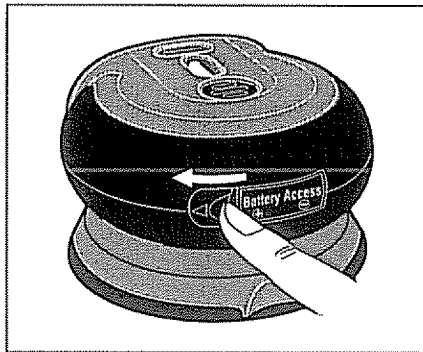

Fig. 4
To Install Batteries (See Fig. 4 & 5)
1. **Push** lightly on the level in the direction of the marked arrow shown in Fig. 4. The battery compartment cover will be opened automatically at once.